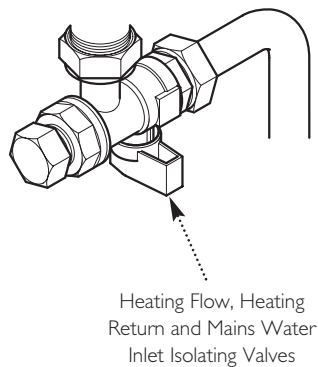

Fig. 10
2. The water isolating valves are positioned under the boiler and can be closed by turning their taps to the right towards the wall (Fig. 10).